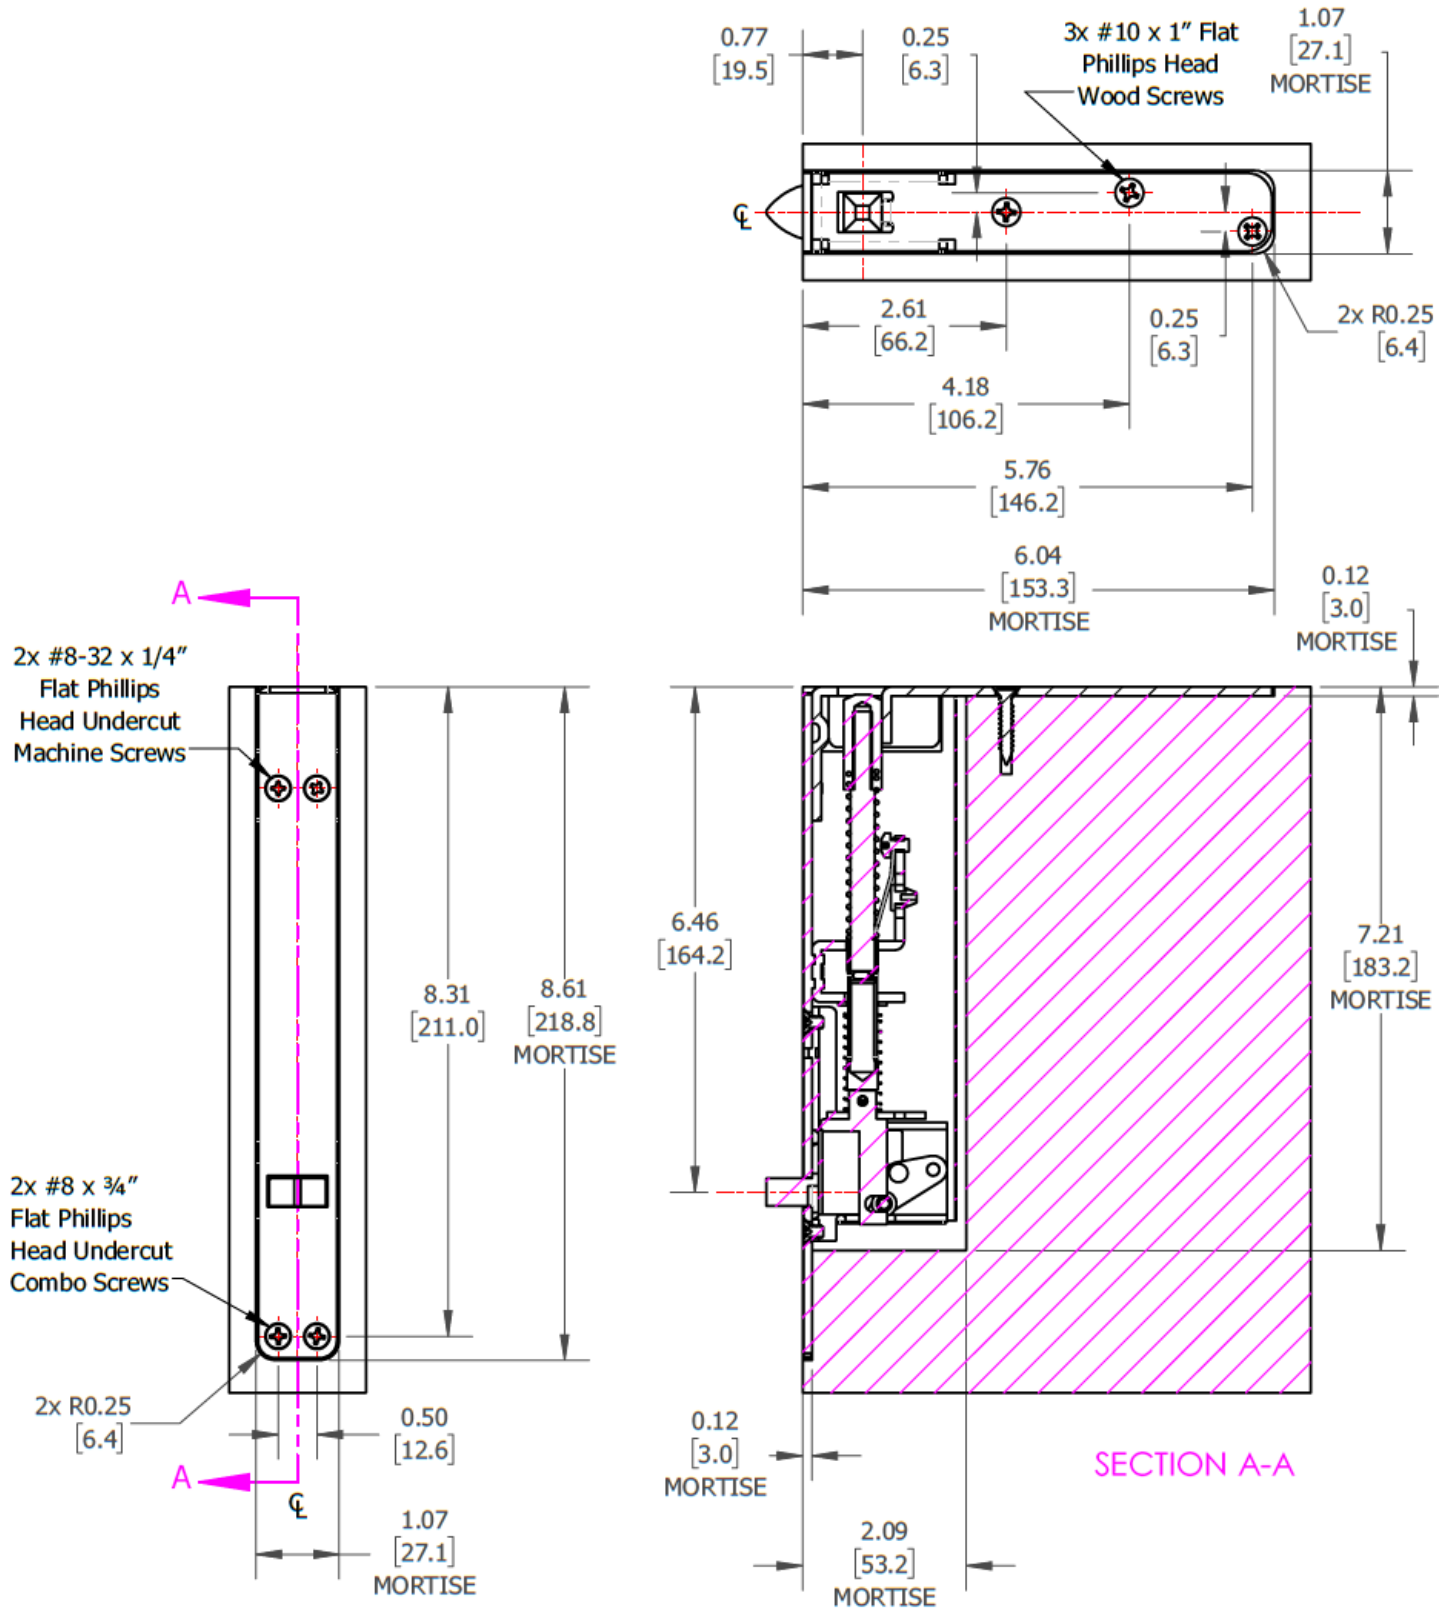
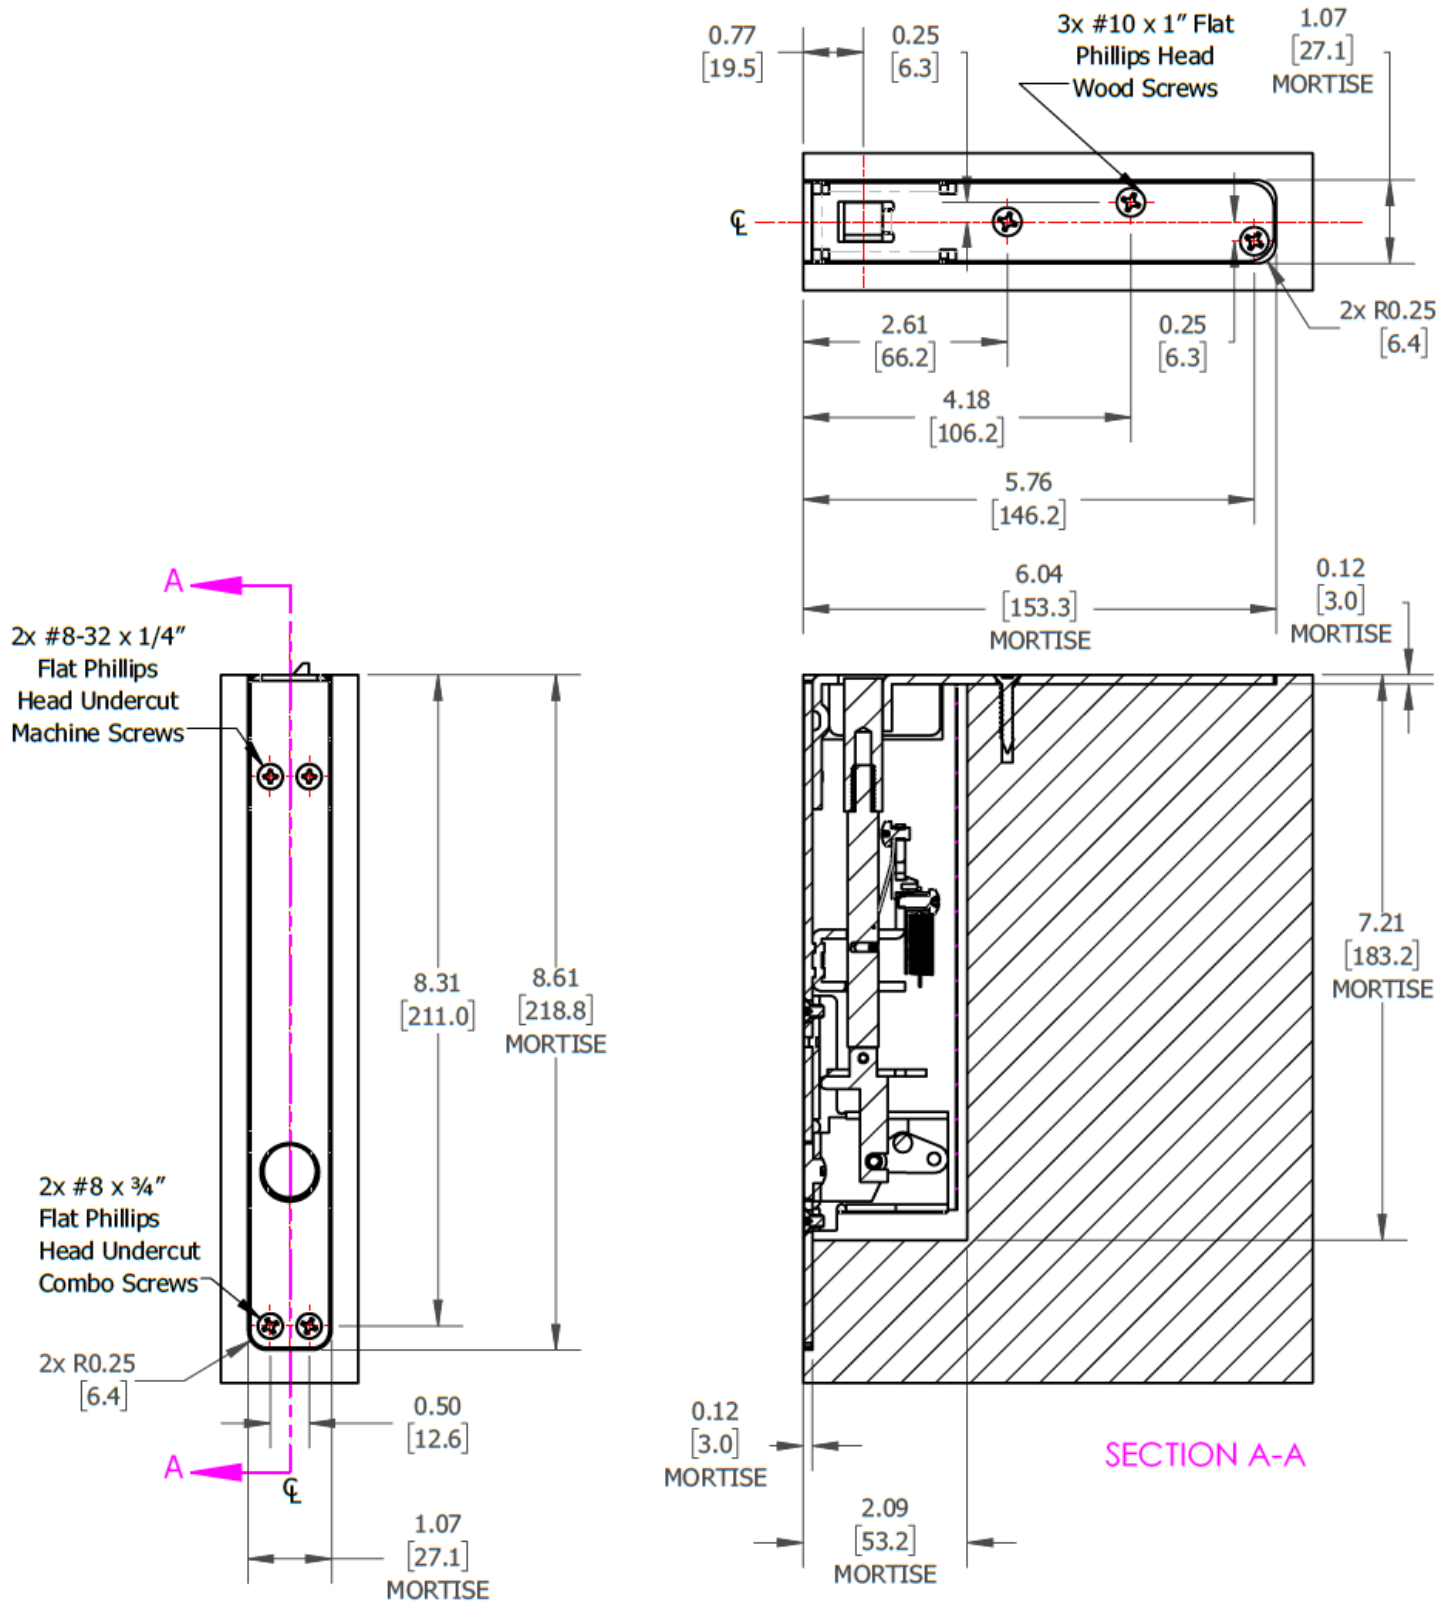

Figure 1: 291S Automatic Flush Bolt for Wood Doors
Figure 2: 294S Self-Latching Flush Bolt for Wood Doors
2. Prep the Inactive Door using Figure 1 for 291S and Figure 2 for 294S